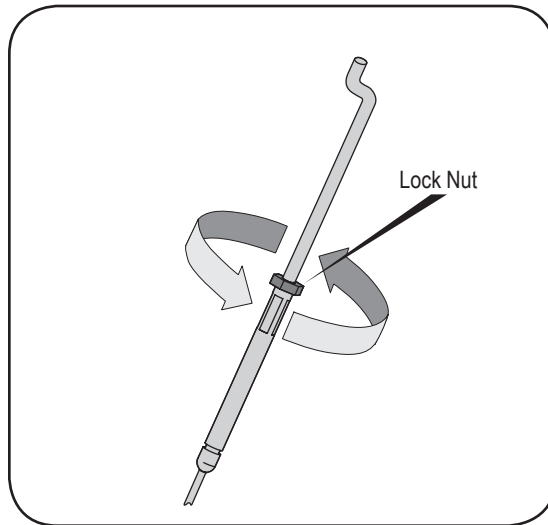

Figure 5-8: Reverse drive belt removal.
2. Adjust either the forward or reverse clutch cable by loosening the hex nut. See Figure 5-8.